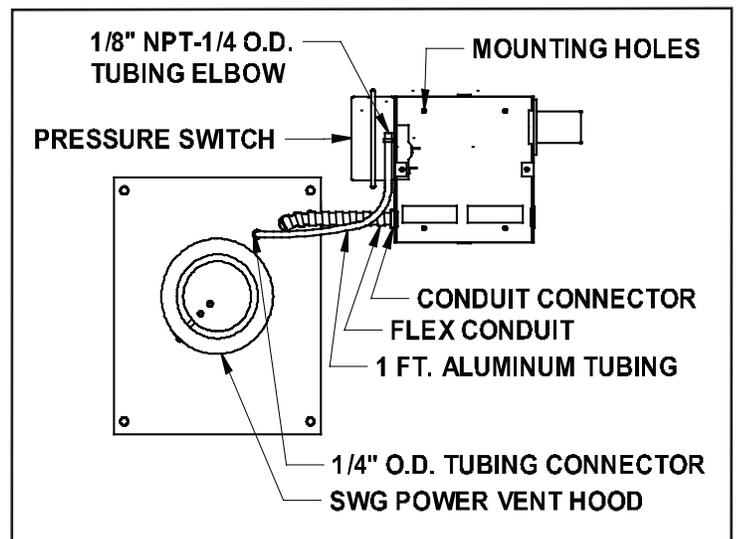

Figure 3
2. Fasten the flexible conduit from the SWG Venter into the conduit connector. Mount the CK-65 junction box or installer supplied junction box onto the wall or floor joist without straining the flexible conduit. Fasten the CK-65 junction box through the four dimpled locations on the base of the box. (See Fig. 3)
1. Attach the ¼" tubing connector to the pressure tube on the SWG Venter. (See Fig. 3)